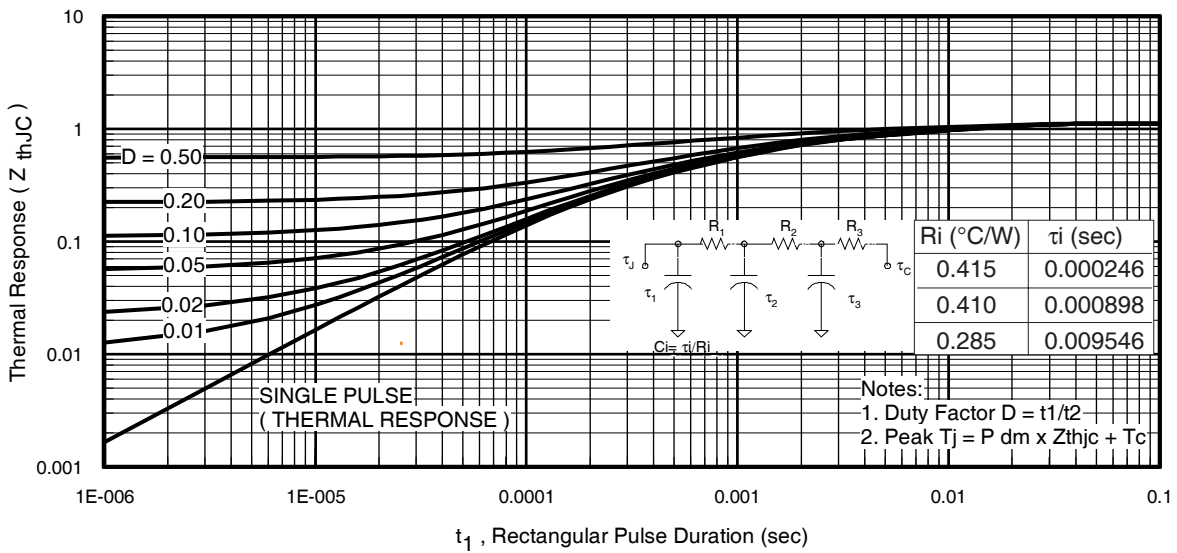

Fig 11. Maximum Effective Transient Thermal Impedance, Junction-to-Case
- ① Repetitive rating; pulse width limited by max. junction temperature. (See fig. 11).
- ② Limited by T_{Jmax} , starting $T_J = 25^\circ\text{C}$, $L = 0.077mH$, $R_G = 25\Omega$, $I_{AS} = 51A$, $V_{GS} = 10V$. Part not recommended for use above this value.
- ③ $I_{SD} \leq 51A$, $di/dt \leq 260A/\mu s$, $V_{DD} \leq V_{(BR)DSS}$, $T_J \leq 175^\circ\text{C}$.
- ④ Pulse width $\leq 1.0ms$; duty cycle $\leq 2\%$.
- ⑤ $C_{oss\ eff.}$ is a fixed capacitance that gives the same charging time as C_{oss} while V_{DS} is rising from 0 to 80% V_{DSS} .
$Z_{thJC}(D, t_{av})$ = Transient thermal resistance, see figure 11)